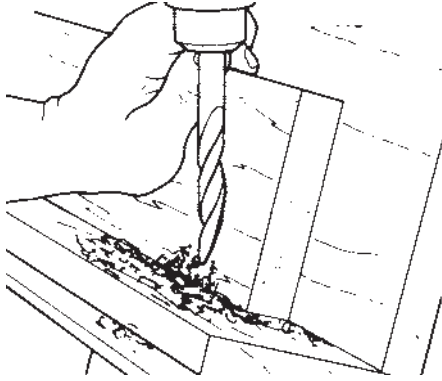

Figure C-27
1. Mount the rip fence on the downside of the table, then tilt the table. This will give the stock maximum support. If the angle is acute, place scrap blocks on the table and rip fence. See Figure C-27.